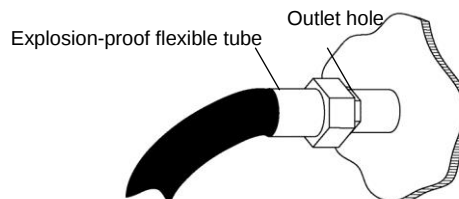

Figure 8.
b. As shown in Figure 8, first tighten the thread joint, and then tighten the explosion-proof flexible tube.